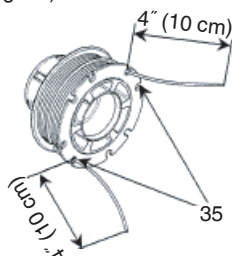

Fig. 31
- (4) Push each line into the stopper holes (35), leaving the loose ends approx. 4" (10 cm) in length. (Fig. 31)